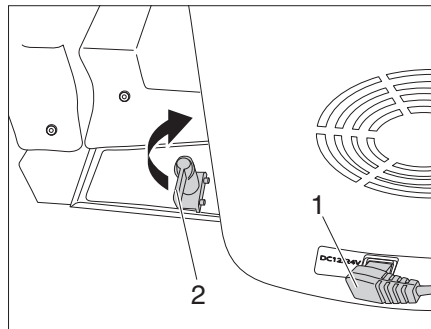

Fig. 88 Locking device
- Remove the 12 V connection (Fig. 88,1) at the cooler.
- Turn the locking device (Fig. 88,2) at the retaining plate by 180° to the front.
- Turn the locking device (Fig. 88,2) at the retaining plate by 180° to the rear.
- Plug in the 12 V connection (Fig. 88,1) at the cooler.